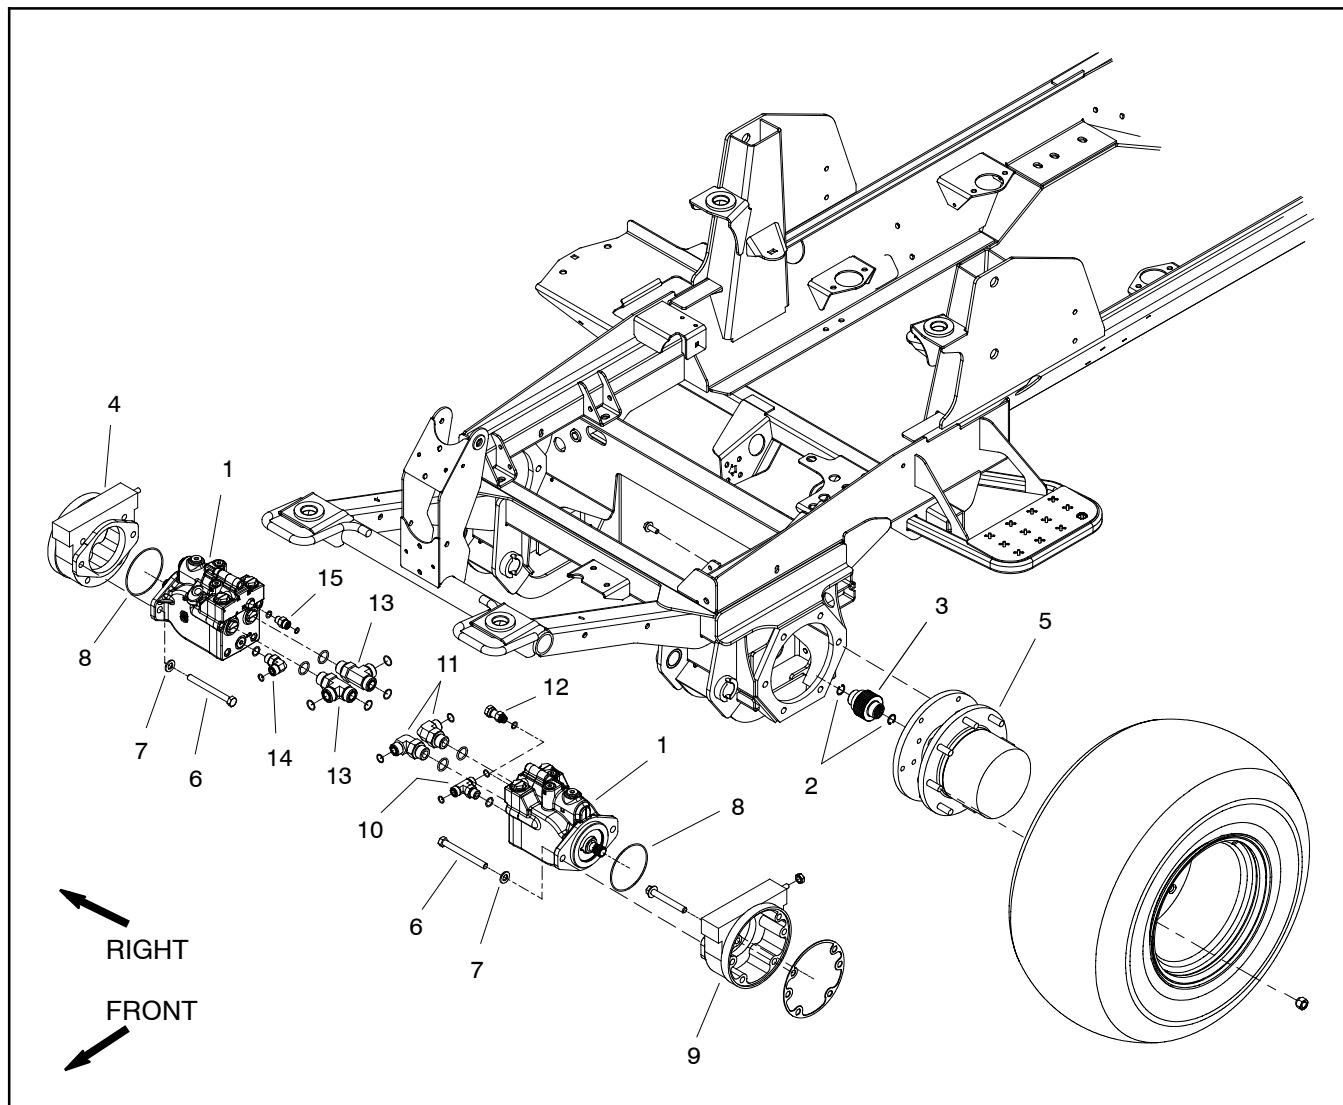

Figure 67
Removal (Fig. 67)
5. Remove wheel motor using Figure 67 as a guide.
Installation (Fig. 67)